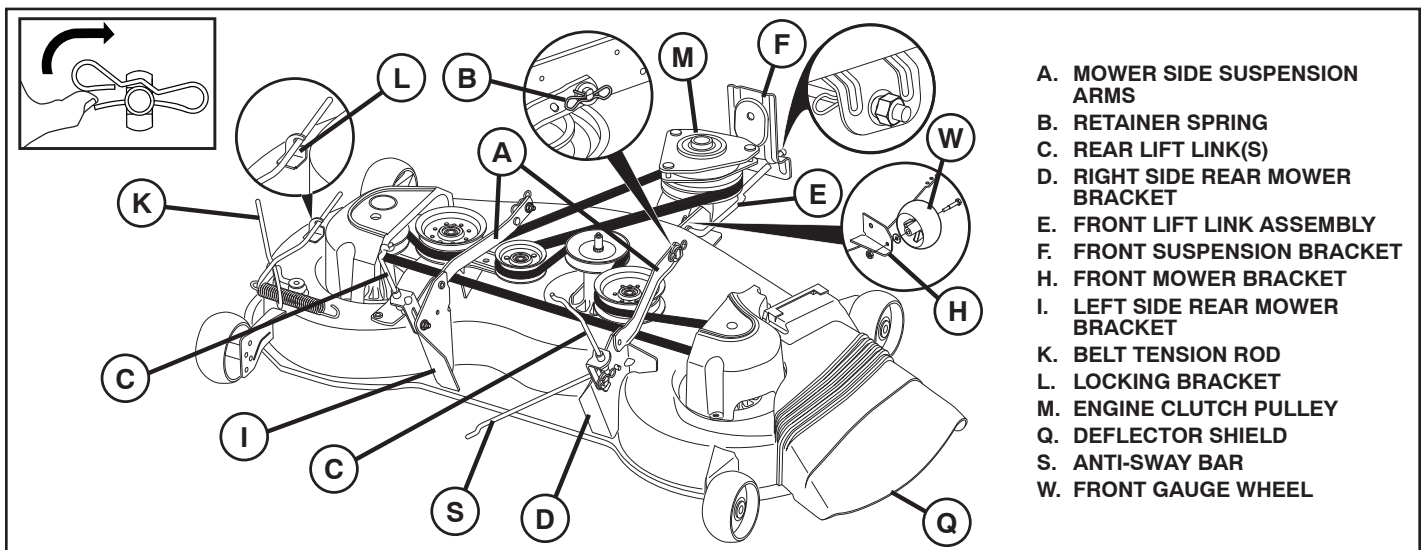

Fig. 19
TO REMOVE MOWER (See Fig. 19)
TO INSTALL MOWER (See Figs. 19 - 31)
9 INSTALL BELT ON ENGINE CLUTCH PULLEY (M) (See Fig. 19 & 31)
- Disengage belt tension rod (K) from locking bracket (L).
- Install belt onto engine clutch pulley (M).